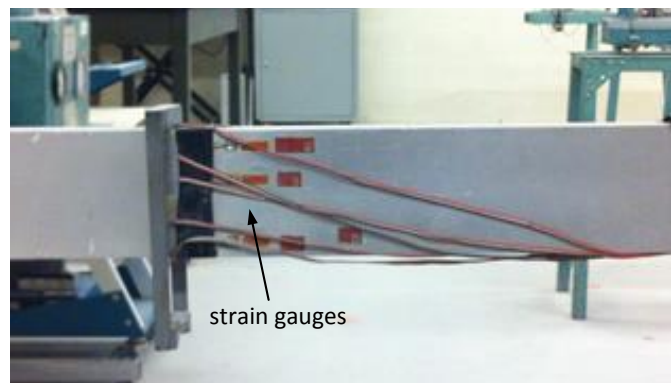

Figure 2: Strain gauges along depth of beam
- Instrumentation to measure deformation (five strain gauges attached along the depth of the beam, Fig. 2).